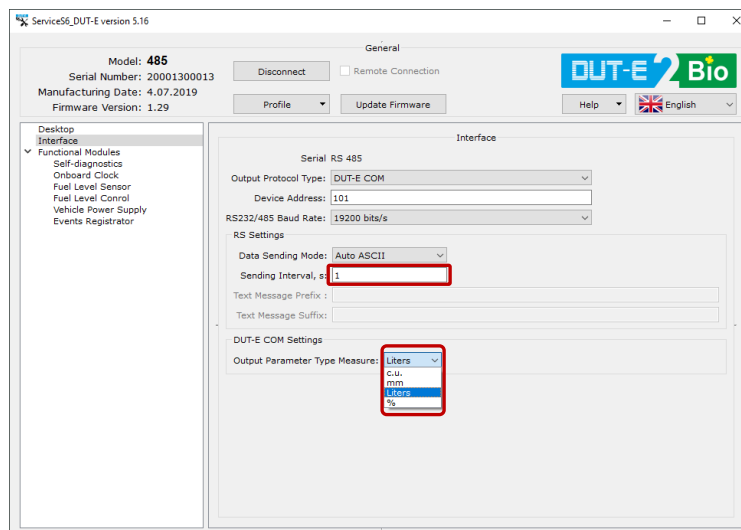

Figure E.1 — Example of DUT-E 2Bio 485 sensor settings made using the service software for data transfer, according to ASCII text protocol
The data transfer interval is specified within the range 1...255 s (by default — 1 s) using Service S6 DUT-E software or Service S6 DUT-E (Android) mobile application (see figure E.1).
- N – current sensor readings in units preset using the service software or mobile application (conventional units/mm/liters/%) (see figure E.1).